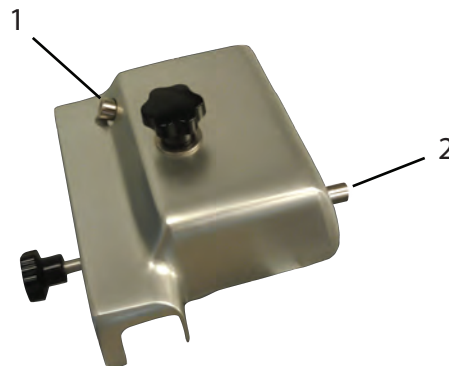

Figure 11
- 6 Turn the slicer on and push the sharpening stone button (Figure 11 [1]) for 20 - 30 seconds.
- 7 After sharpening the back side of the blade push the honing stone button (Figure 11 [2]) for 3 seconds and release. It is important to not over-use the honing stone or it will affect performance of the blade.